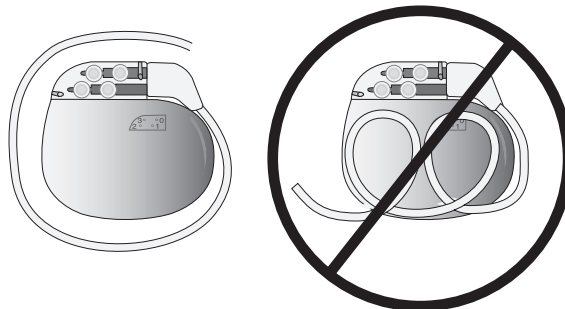

Figure 10. Wrap excess extension around the perimeter of the Model 3023 Neurostimulator.
- Do not coil excess length in front of the etched identification side of the neurostimulator. Wrap excess length around the perimeter of the neurostimulator (Figure 10) to avoid increasing subcutaneous pocket depth, help minimize potential damage during neurostimulator replacement surgery, help minimize potential kinking, and minimize interference with telemetry during programming.